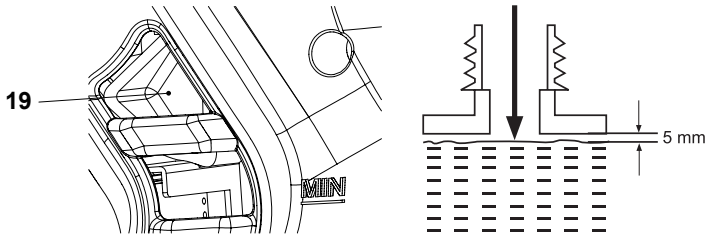

Fig. 10
4. Don't fill the oil lower than the "MIN" mark on the oil level window (19), but also do not overfill or and leave approximately 5 mm of space between the top of the oil and the inside edge of the tank to allow for expansion (Fig. 10).
5. Check the oil level window (19) prior to start-up and regularly during operation. Refill oil when the oil level is close to the bottom of the oil level window (19) (Fig. 10).
6. Wipe up spilled lubricant with a soft cloth and refit the oil tank cap (13).